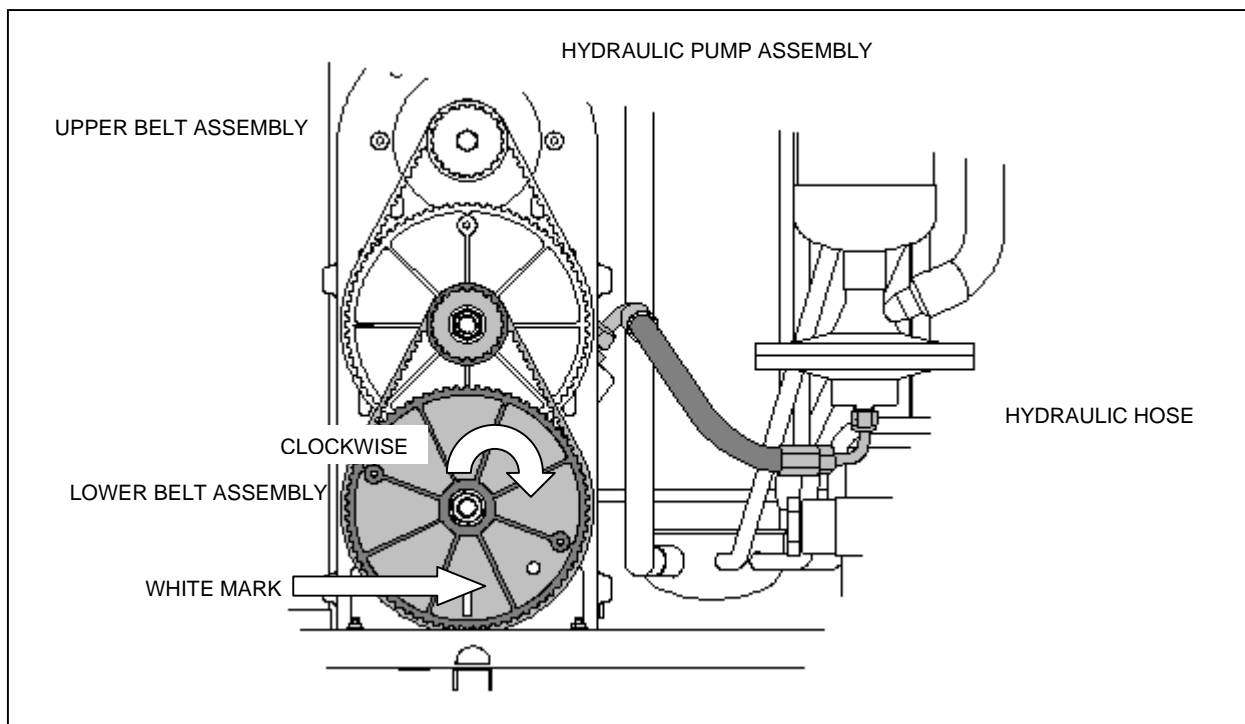

Figure 34 –LOWER PULLEY AT THE 6 O'CLOCK POSITION (BDC)
6. Turn the pulley clockwise to where the white mark is in the 6 o'clock position (the bottom-dead-center BDC as shown in Figure 34).